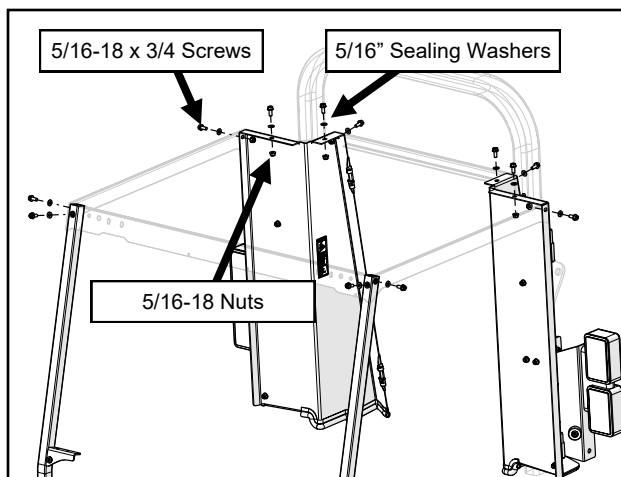

Fig. 7.2 (Loosely Secure Roof)
7.2 With a helper, set the roof on top of the A-pillars and rear legs. See Figure 7.2. Loosely secure with sealing washers on all the screws. The A-pillars and rear legs should be loose enough to move into place on the roof.